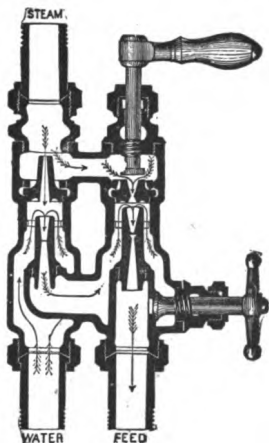
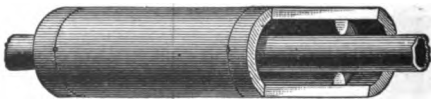

FIG. 113.—LENGTHWISE CENTRAL SECTION OF
FIG. 114.—GILMOUR'S NON-CONDUCTING BOILER COVERING.
Q. In what does the "Unique" injector, shown in Fig. 114, differ from the Hancock inspirator shown in Fig. 113?